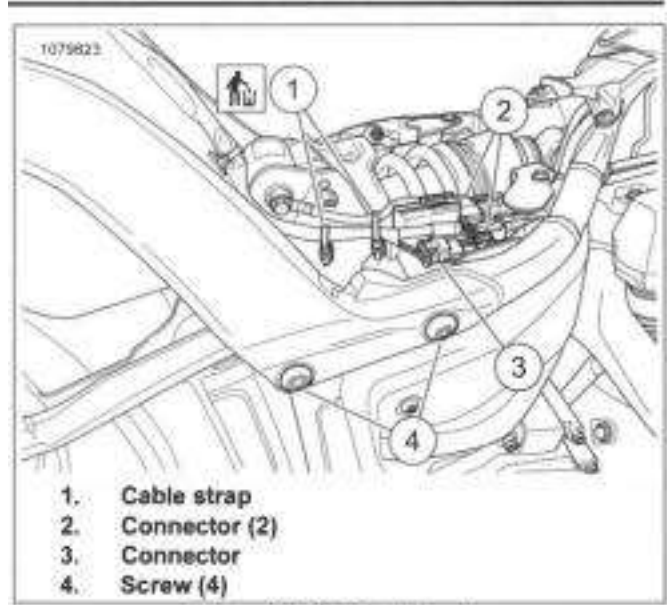

Figure 3-128. Rear Fender
1. See Figure 3-128. Disconnect connectors (2, 3).
2. Discard cable strap(s) (1).
- b. Remove fender screws (4) and washers from both sides.
1. See Figure 3-128. Install rear fender.
- b. Install screws (4) and washers. Tighten.